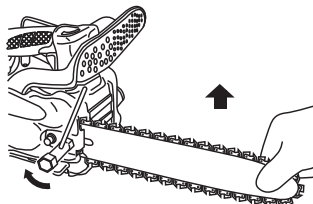

Fig. 6
8. Raise the bar end and securely tighten the chain bar clamp nuts with the combi box spanner. (Fig. 6)